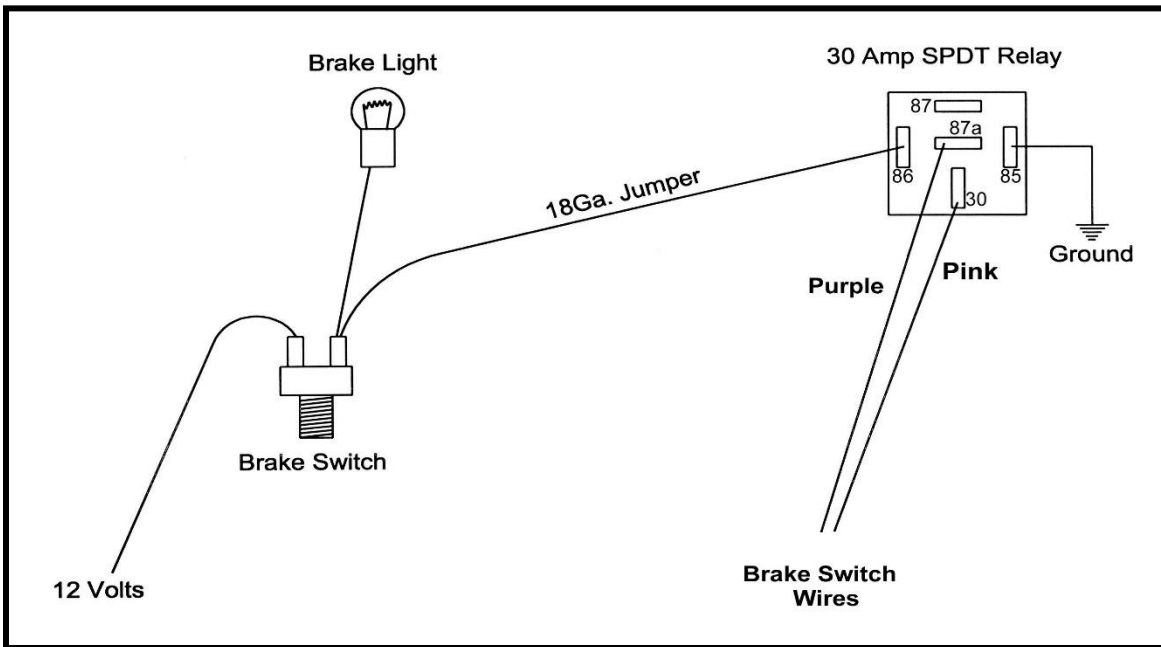

FIGURE 6.3 Brake Switch Relay
- 6.2.3 BRAKE SW (optional)** - These circuits are used to provide power to the TCC solenoid in the automatic transmission. If you are not using the electronic automatic transmission, you may stow these wires. If you are using the electronic automatic transmission, these wires will connect to the brake switch terminals that are normally used for cruise control or TCC solenoid (normally closed). **These wires do not connect to the terminals for the brake lights.** See table 4.1 for the recommended brake switch. If you are using the recommended brake switch then you will wire it according to **Figure 6.2**. The pink wire to the back of the switch in the illustration is the wire that has power on it whether or not the brake is being applied. If your vehicle has a pressure type brake switch, you may use a relay as shown in **Figure 6.3**. The relay must be a **SPDT Relay** and wired correctly or it could result in a dangerous situation with the vehicle. The torque converter may not unlock.